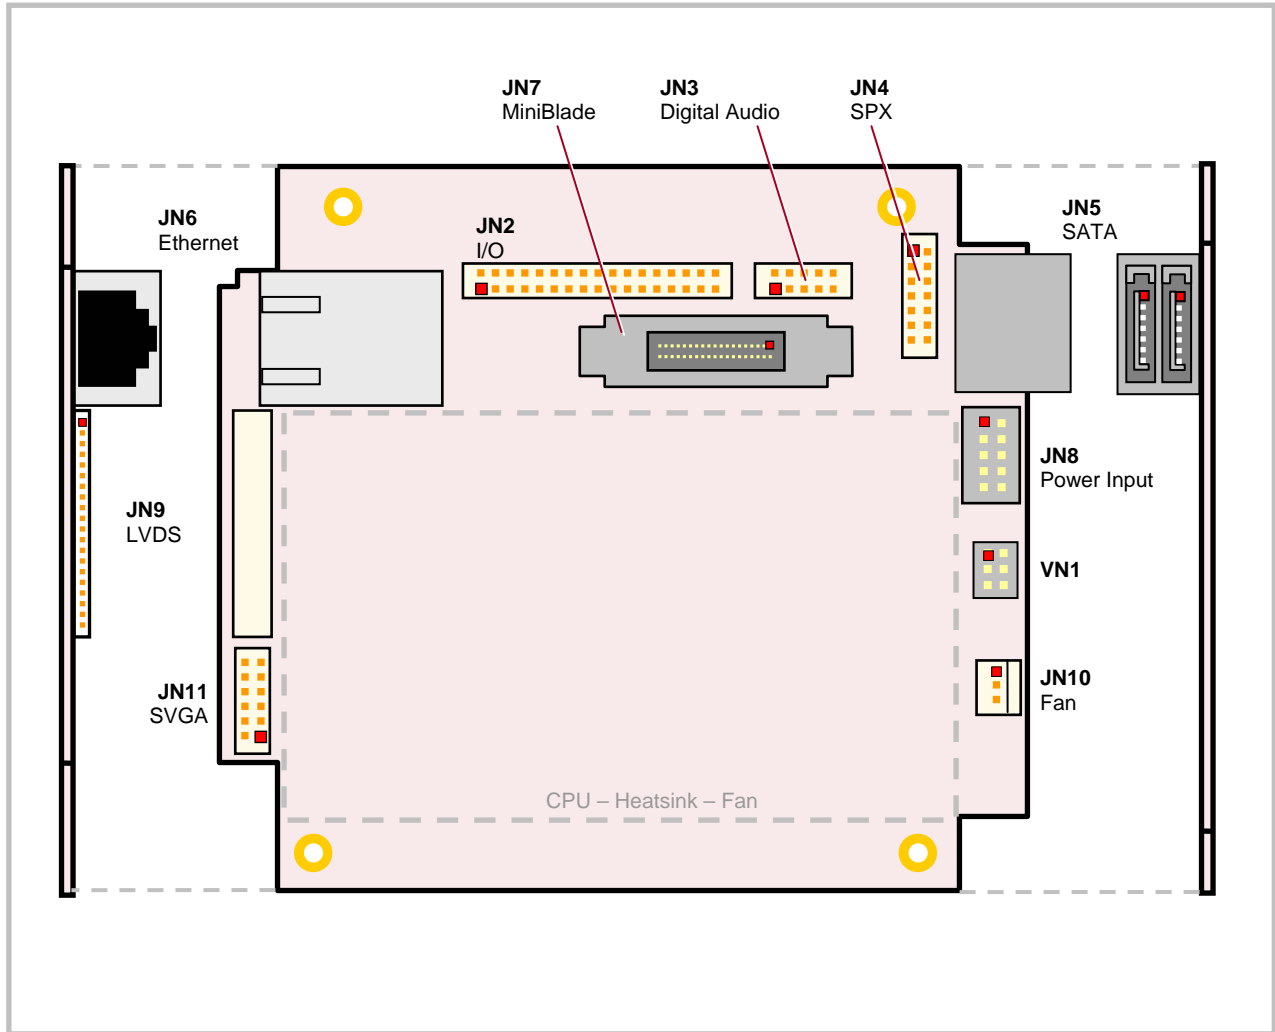

Figure 7. Connector Locations (Top View)
1. The PCB Origin is the mounting hole to the lower left, as shown in Figure 7.